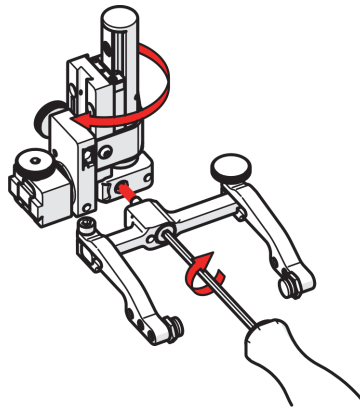

Figure 2-91 Screw yoke to opposite side
- Using the supplied 3 mm hex driver, mount the yoke to the opposite side of the base (see Figure 2-91 on page 107).